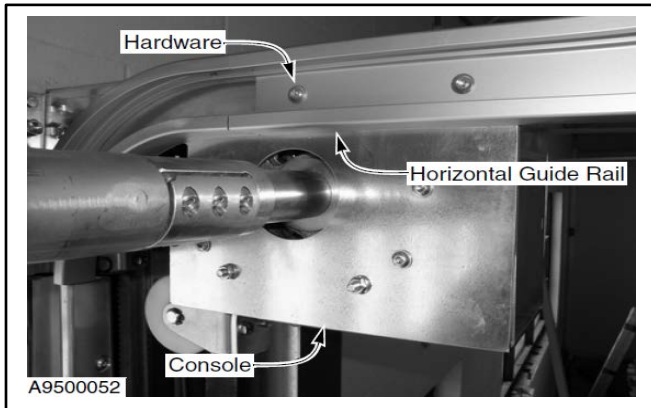

Figure 49
2. Insert the horizontal guide rail into the console. Install the hardware and secure the rail to the console. (See Figure 49.)